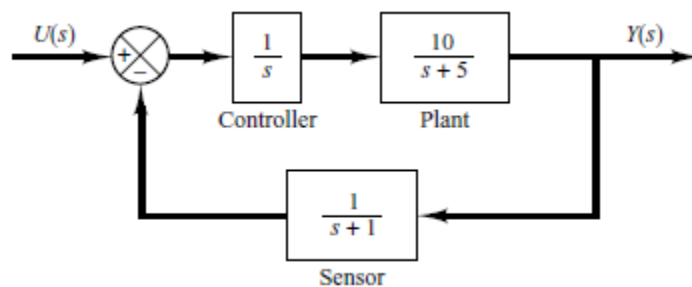

Figure 1
1B. Obtain the state space model of the system shown in figure 1. (03)